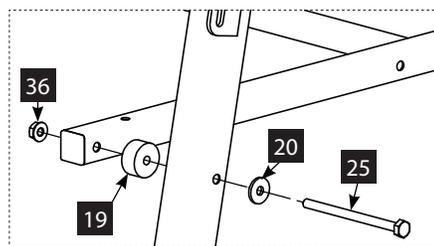

FIGURE 4A
- Next assemble the seat support (13) to the armrests (10 & 11) as shown in **FIGURE 4**. The order of the hardware: 1/4 -20 X 3-3/4 IN bolts (25), yellow plastic washers (20), plastic spacers (19) and 1/4-20 nuts (36) is imperative for proper assembly and function, **SEE FIGURE 4A**.